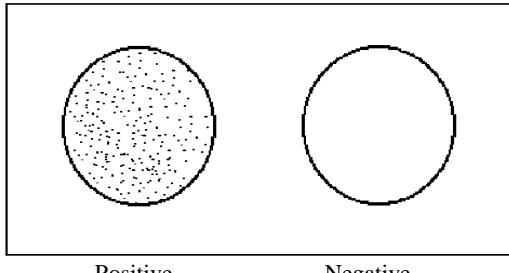

Figure 1.
2. Positive reaction: Any observable agglutination in the reaction mixture. A positive reaction indicates that the concentration of ASO in the specimen is equal or greater than 200 IU/mL. The specimen reaction should be compared to the ASO Negative Control (Fig. 1).